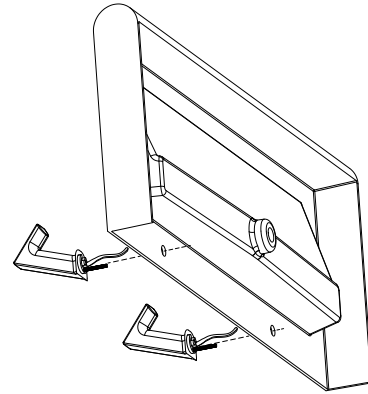

Figure 7
7. Install Faucet spouts, (Figure 7) onto sink according to manufacturer's instructions provided with components.